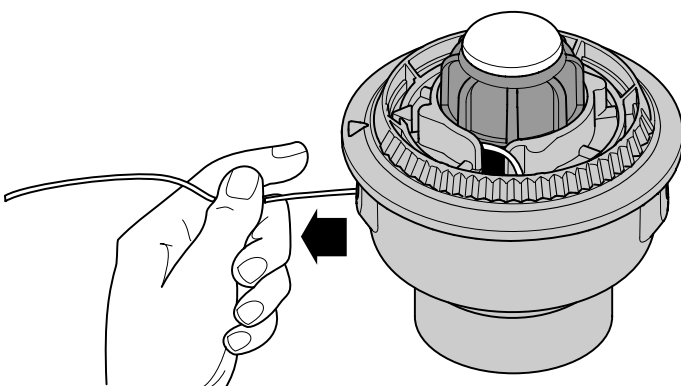

Fig. 39
6. Pull the line from the outer spool until the line is tight against the inner reel (Fig. 39).